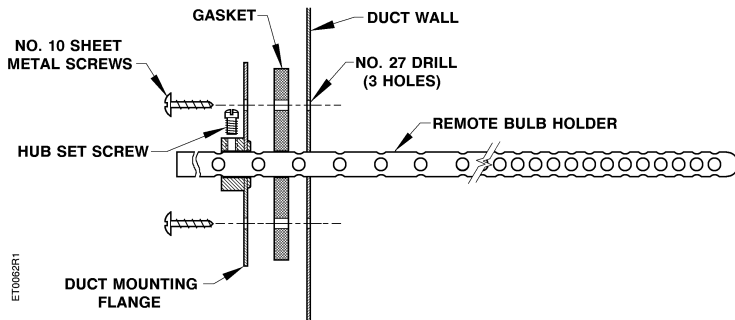

Figure 3. Remote Bulb Holder Kit 808-517.
- Use a remote bulb holder No. 808-517 to support the remote bulb. See Figure 3. The holder may be shortened to fit small ducts.